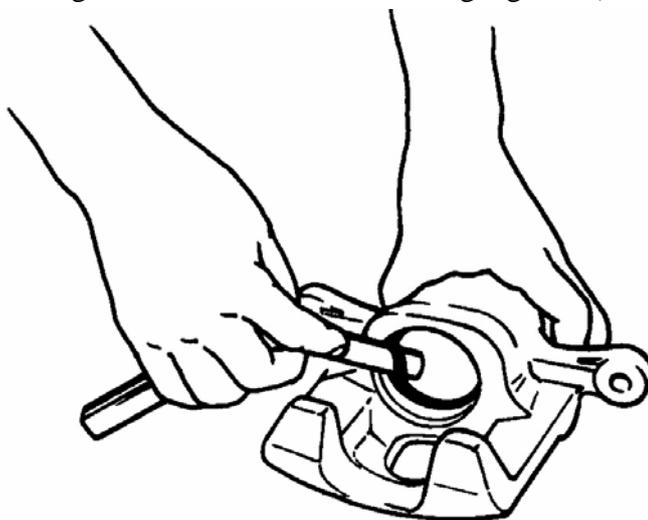

FIG.16-18
(5) Remove piston seal using a thin blade like a thickness gauge, etc(FIG.16-18)